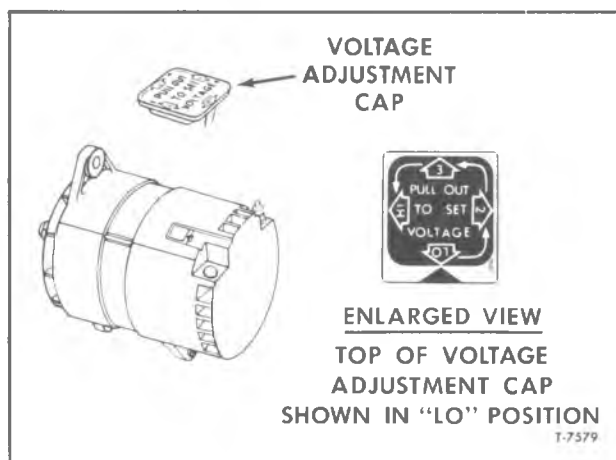

Figure 10—Voltage Adjustment Cap
this section, generator is not defective. Remove voltage adjustment cap from generator and raise the setting by rotating in increments of 90° , and then insert the cap in the connector body. As illustrated in figure 10, the cap is set for low voltage. With position 2 aligned with arrow, the setting is increased to medium low, position 3 is medium high, and position "HI" is the highest regulator setting. After adjusting the setting, check for an improved battery condition after a service period of reasonable length.
4. If ampere output is not within 10 per cent of limits listed in "Specifications," increase generator speed as required to obtain maximum voltage reading. Note position of voltage adjustment cap (fig. 10).